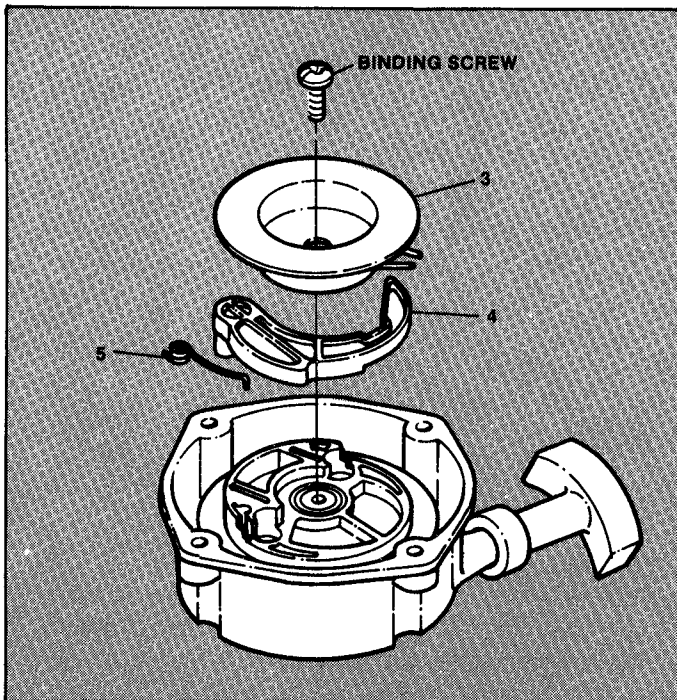

FIGURE 5.1
- B. Remove friction plate (2), friction spring (3) and ratchet (4) as a unit.
- C. Remove return spring (5). See Figure 5.1